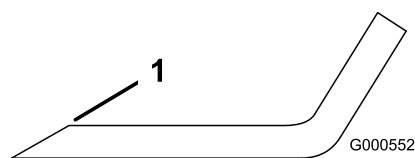

Figure 48
1. Use a file to sharpen the cutting edge at both ends of the blade (Figure 48).
**Note:** If the blade is not balanced, file some metal off the end of the sail area only (Figure 48).